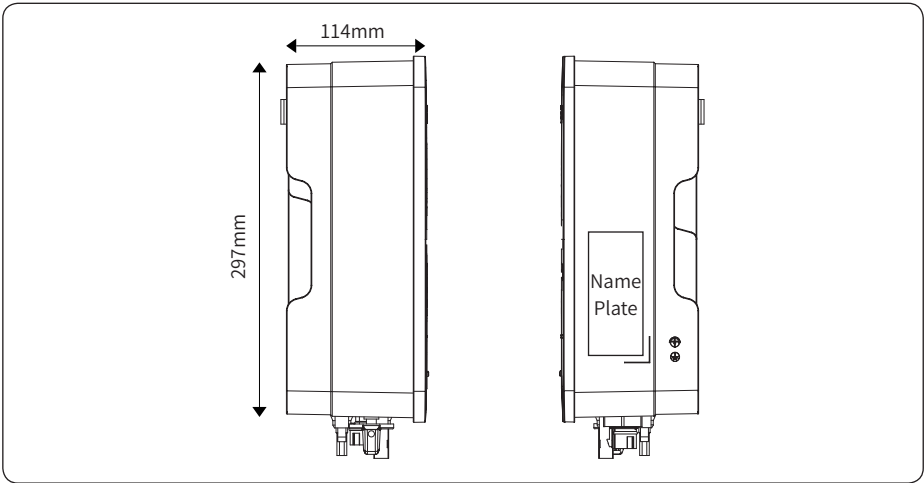

Figure 3-3 Side view
3.2.2 Inverter side view, as shown in Figure 3-3: